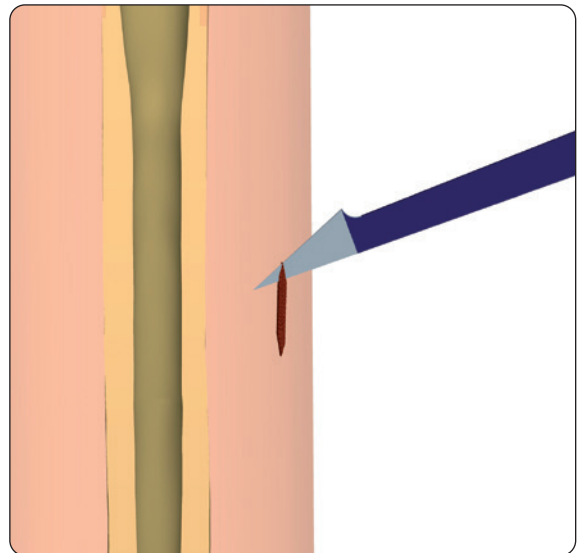

Fig. 1
1) Make a 15mm incision through skin and deep fascia. Use blunt dissection to reach the underlying bone (**Fig. 1**).